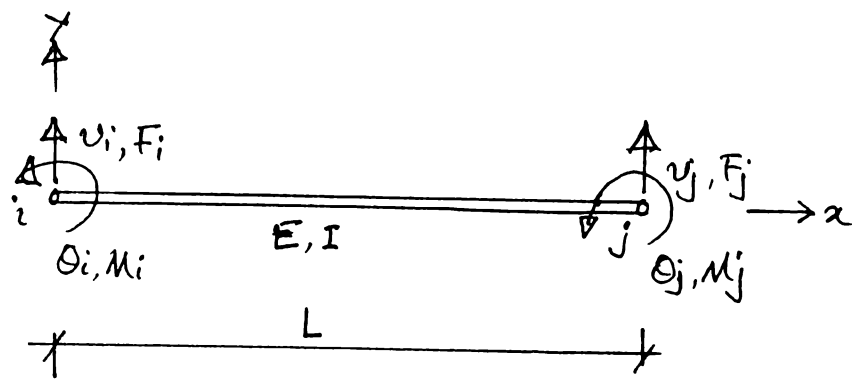
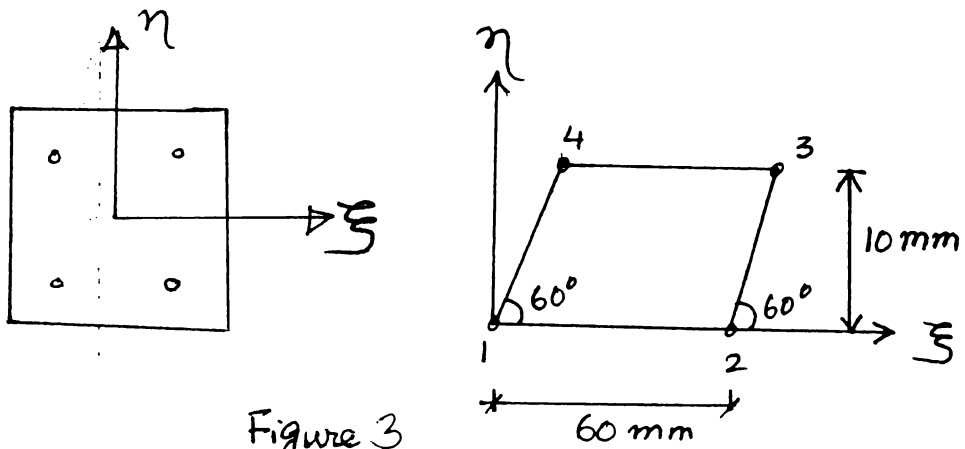

Figure 2
Figure 3
5. (a) Explain the term 'shape functions'. Why polynomial terms are preferred for shape functions? (6)
- (b) Assume reasonable shape functions and derive the strain displacement matrix (B) and element stiffness matrix (K) for the simple beam shown in Figure 2. The beam has a moment and a shear force at each of the ends. (10)
6. (a) Write short notes on (8)
- (c) Assemble Jacobian matrix and strain displacement matrix corresponding to Gauss point (0.57735, 0.57735) for the element shown in Figure 3. Also indicate how do you proceed to assemble the element stiffness matrix. (8)